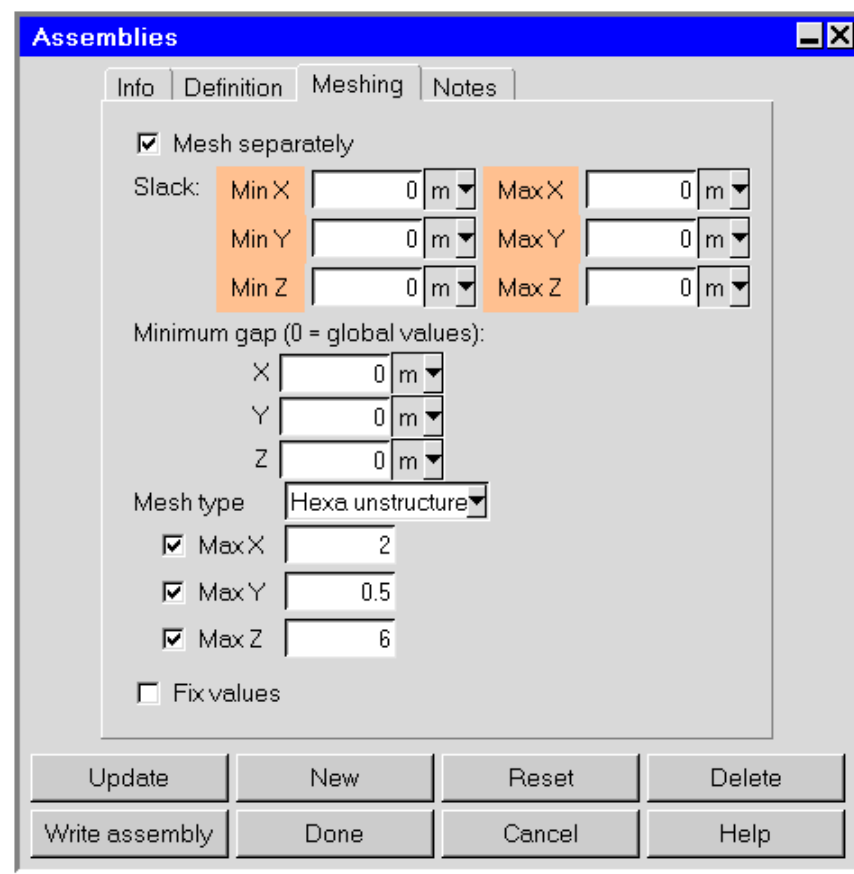

Figure 7.8.3: The Assemblies Panel (Meshing Tab)
6. In the **Meshing** tab, specify whether you want to have the assembly meshed separately from the rest of your **Airpak** model (Figure 7.8.3).